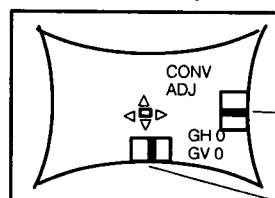

Fig. 52
7. While pushing the " colour temperature " button press the remote controller " Mute " button 4 times. The unit will enter the "Auto-convergence adjustment Mode"as shown in **Fig. 52**